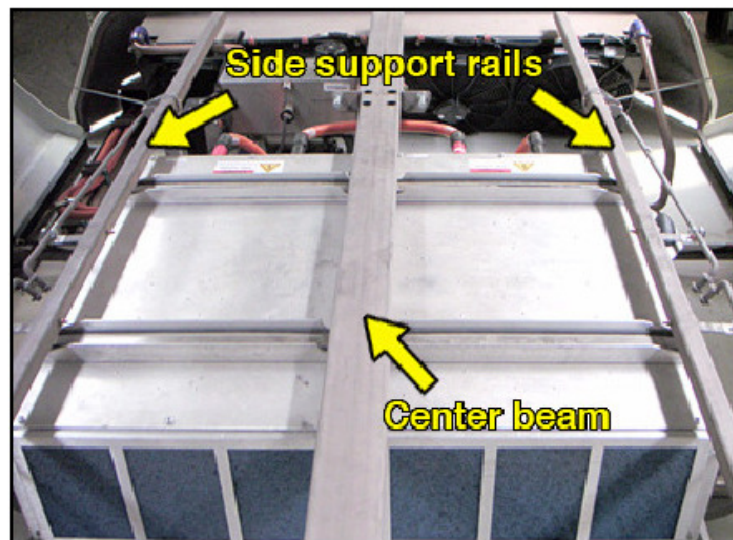
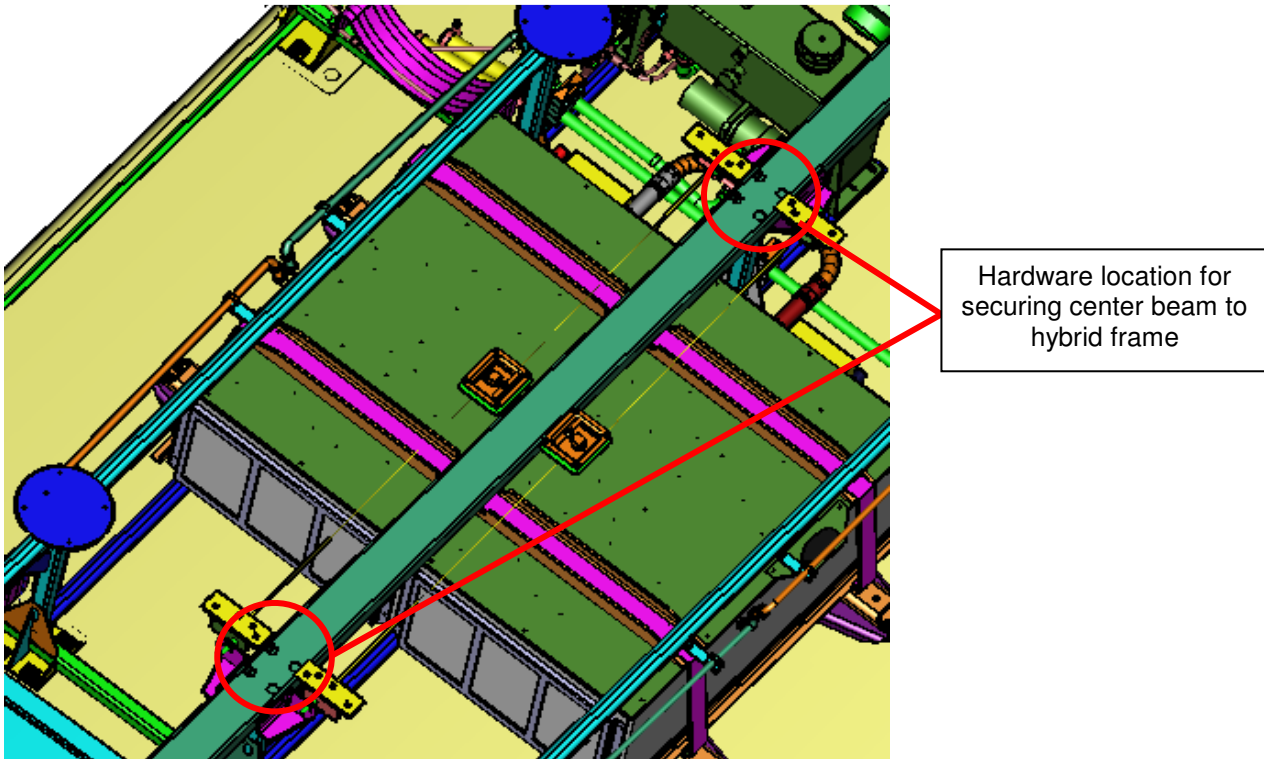

Fig 3 – Legacy UCAP Beams
Fig 4 – Legacy UCAP Beams
- a. Remove the four front and rear hardware securing the center beam to the roof top frame. Trim foam strips on beam to access the hardware if required (See Fig 3 and Fig 4)